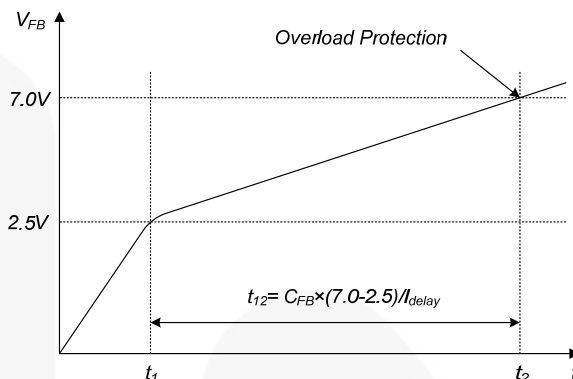

Figure 22. Overload Protection
increasing until it reaches 7.0V, when the switching operation is terminated, as shown in Figure 22. The delay for shutdown is the time required to charge C_{FB} from 2.5V to 7.0V with 2.0 μ A. A 25 ~ 50ms delay is typical for most applications. This protection is implemented as auto-restart.
5. Soft Burst Mode: To minimize power dissipation in Standby Mode, the FSL156MRIN enters Burst-Mode operation. As the load decreases, the feedback voltage decreases. As shown in Figure 22, the device automatically enters Burst Mode when the feedback voltage drops below V_{BURL} (350mV). At this point, switching stops and the output voltages start to drop at a rate dependent on standby current load. This causes the feedback voltage to rise. Once it passes V_{BURH} (500mV), switching resumes. The feedback voltage then falls and the process repeats. Burst Mode alternately enables and disables SenseFET switching, reducing switching loss in Standby Mode.